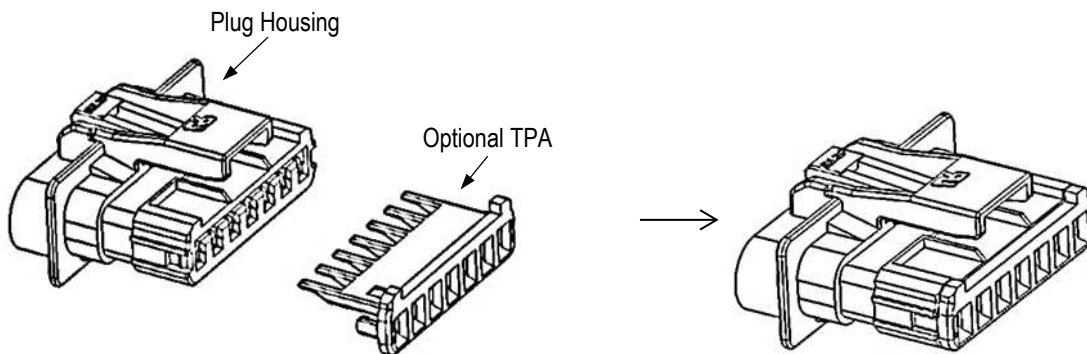

Figure 7
1. Grasp the TPA and push TPA straight into the plug and cap housing from FRONT (there should be an slight audible click). Refer to Figure 7.